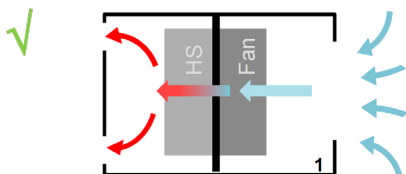

Figure 19. Design guidelines for active cooling solutions.
- The luminaire should be equipped with an inlet for cool air and an outlet for hot air (Figure 19).